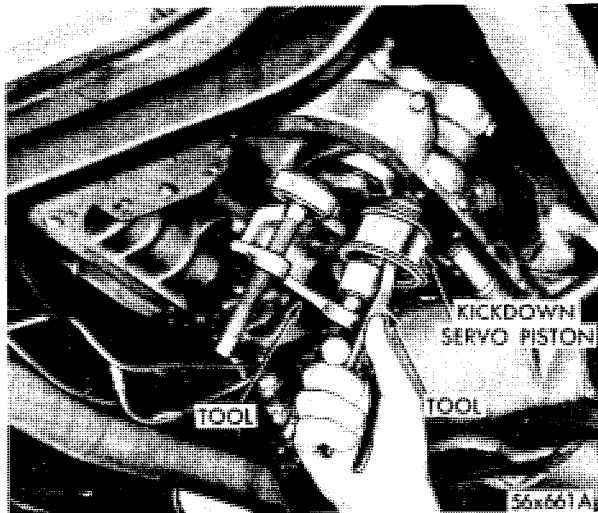

Fig. 22—Removal and Installation of Kickdown Piston
- (1) Remove oil pan and valve body assembly.
- (2) Loosen kickdown band adjusting screw lock nut and back out screw sufficiently to remove anchor and strut.
- (3) Install compressing Tool C-3529 or C-3289 (modified), apply sufficient pressure on kickdown piston rod guide and remove snap ring.
- (4) Remove tool, piston rod guide, piston spring and rod. Using C-484 pliers, remove the kickdown piston from transmission case (Fig. 22). Refer to Kickdown Piston Inspection, Paragraph 82.